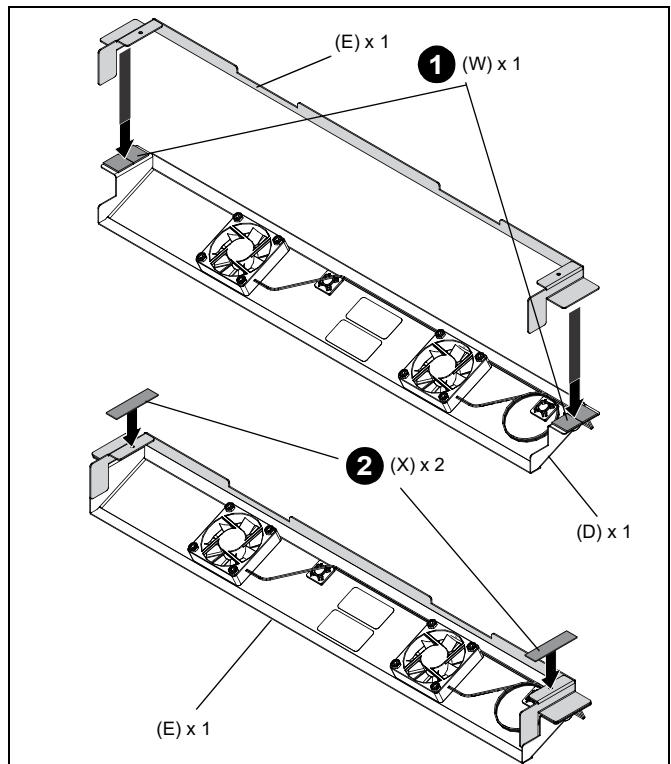

Figure 12
1. Remove adhesive covers from two 1/2" x 2" tape pads (W) and attach to edges of fan assembly (D). Attach filter bracket (E) to underside of fan assembly. (See Figure 12)
2. Remove adhesive covers from two foam tapes (X) and attach to edges of filter bracket (E) (See Figure 12)